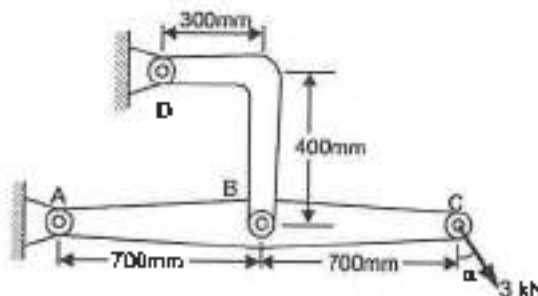

Figure. 1
- 1) Figure 1 shows a frame in which the structural members support the 5 kN load. The load may be applied at any angle α (-90° to $+90^\circ$). The pins at A and B need to be designed to support the maximum force transmitted to them. Write a MATLAB program to plot the forces at A and B as a function of α and find their maximum values and corresponding angles α .